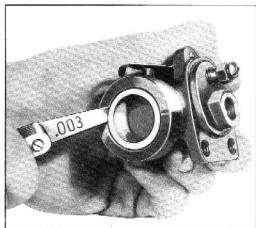

Fig. 27—Checking Wheel Cylinder Piston Fit
3. Check the fit of the piston in the cylinder bore, using a feeler gauge, Fig. 27. This clearance should be from 2 to 4 thousandths of an inch.